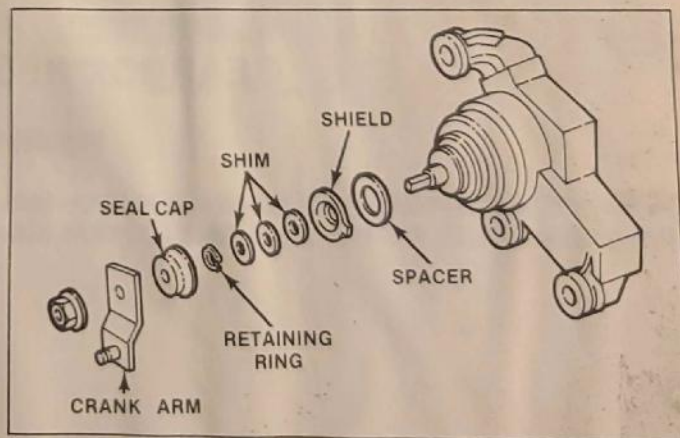

Fig. 43. Crank Arm Assembly
8. Remove crank arm and rubber seal cap (fig. 43). Remove retaining ring with snapping pliers. Slide shim, shield and spacer from shaft. Slide gear assembly from housing. Retain inner spacer for use during assembly.
3. Assemble shaft to housing. Refer to figure 43. Use shim washers as necessary to obtain end play of 0.004-inch. Do not install crank arm until motor can be run to park position.